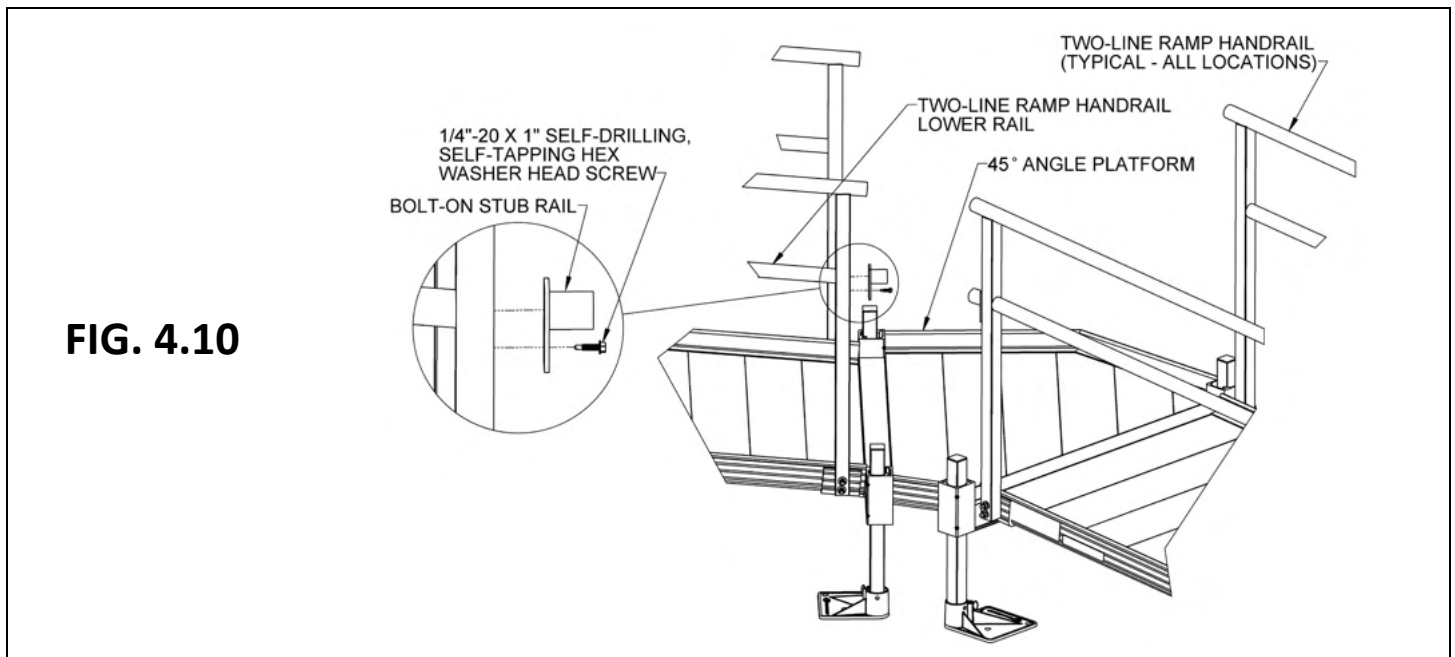

FIG. 4.10
- 4.6.3. After installing the ramp handrails, attach two Bolt-On Stub Rails to the ramp handrail posts on the “short” side of the 45-degree Angle Platform. Center the 1-1/2” dia. tube of the Bolt-On Stub Rail with respect to the ramp handrail lower rail and secure using a 1/4”-20 x 1” self-drilling, self-tapping hex washer head screw (FIG. 4.10).